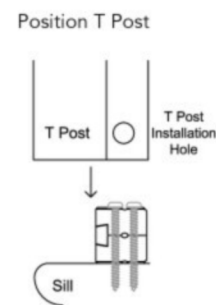

Fig. 8.3
- Use (2) #6 x 1 3/4" T Post Block Screws to attach the blocks to the sill. Do not fully tighten the screws – they should only be snug. (See Fig. 8.3)
- Set the assembled frame back in the opening making sure the bottom of the T Post slides over the blocks on the sill. (See Fig. 8.3)